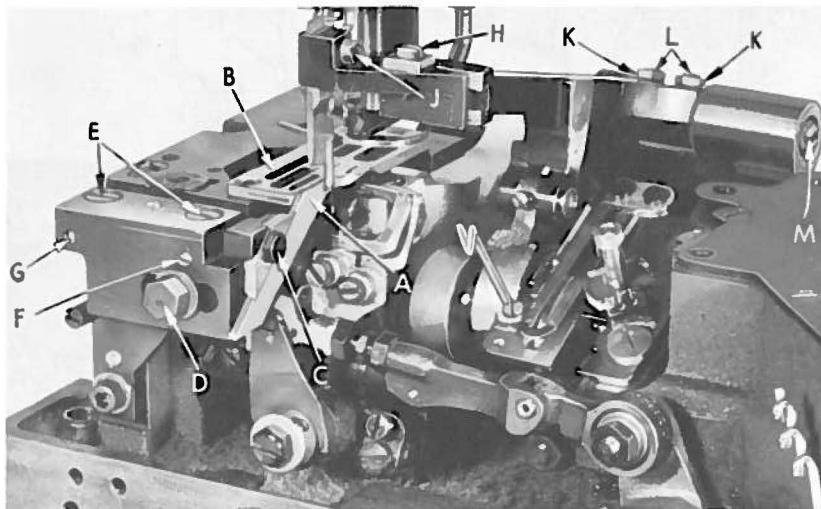

Fig. 14
The cutting edge of the lower knife (A, Fig. 14) should be set level with the top of the throat plate (B). This can be accomplished by loosening screw (C), move lower knife up or down as required and retighten screw. The trimming edge of lower knife should be aligned with the center of the right needle. This can be accomplished by loosening screw (D), turn screw (A, Fig. 15) toward the operator to move knife to the left and turning it away from the operator acts the reverse. When desired position of knife has been obtained, retighten screw (D, Fig. 14). The shear angle of the lower knife should be set at about 1 degree. This adjustment can be made by loosening screws (E) and turning screw (F) counterclockwise and screw (G) clockwise until the 1 degree is obtained, turning screws (F) & (G) in the opposite direction will decrease the shear angle. Retighten screws (E).
The upper knife should be set to trim the full length of its blade. Positioning of knife to the left or right can be accomplished by loosening screw (H, Fig. 14). Positioning of knife upward or downward can be accomplished by loosening screw (J). When desired position of knife has been obtained, retighten screws. Should forward or rearward repositioning of upper knife become necessary, loosen lock nuts (K) and loosen Allen head screws (L), then turn eccentric pin (M) as required. Retighten Allen head screws and lock nuts.